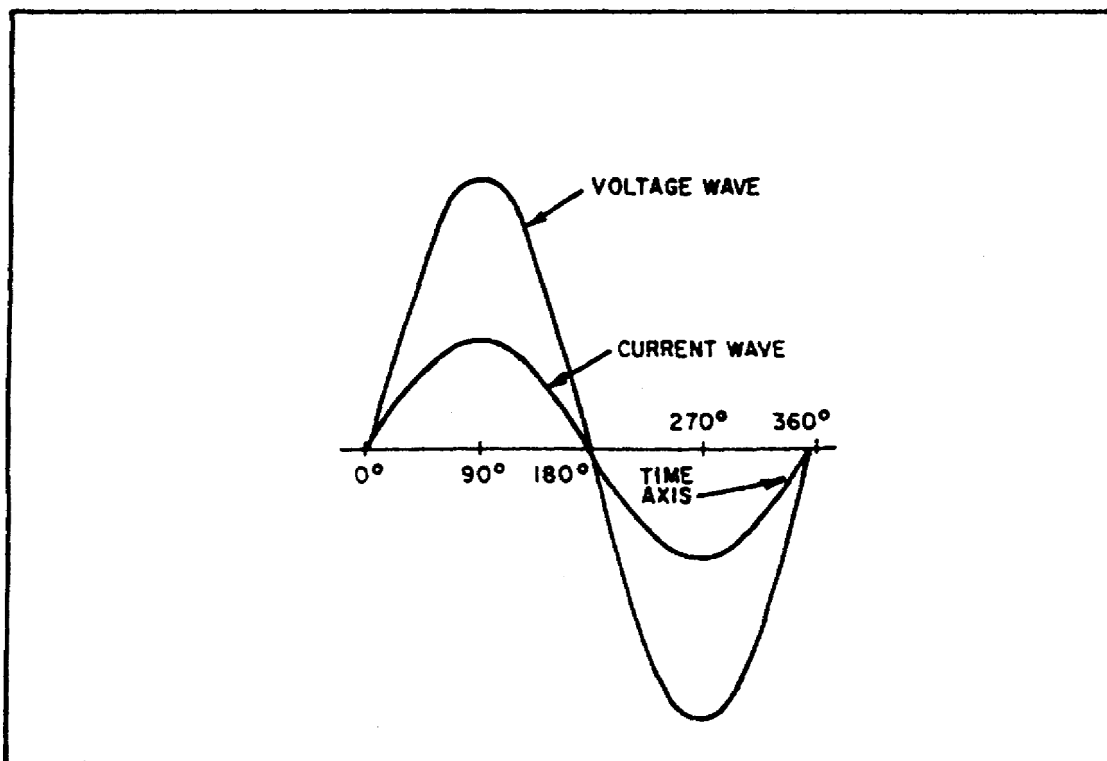

FIGURE 68. VOLTAGE AND CURRENT WAVES IN PHASE.
k. *Sine Waves in Phase.* When a sine wave is applied to a resistance, the resulting current is also a sine wave. This follows Ohm's law which states that current is directly proportional to the applied voltage. Now examine figure 68. Notice that the sine wave of voltage and the resulting sine wave of (current are superimposed on the same time axis. Notice also that as the voltage increases in a positive direction, the current increases along with it, and that when the voltage reverses direction, the current also reverses direction. When two sine waves, such as those represented in figure 68, are precisely in step with one another, they are said to be IN PHASE. To be in phase, the two sine waves must go through their maximum and minimum points at the same time and in the same direction.